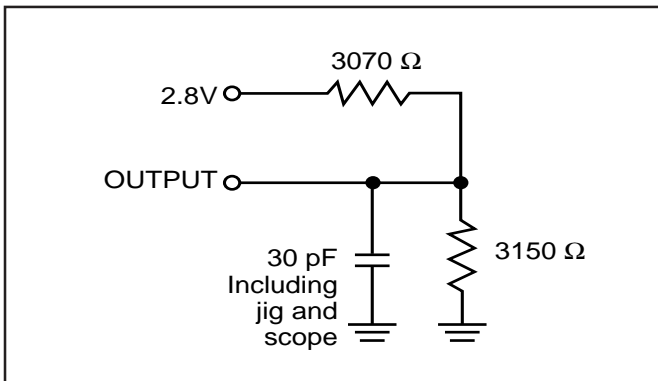

Figure 1
Output Load	See Figures 1 and 2
- Test conditions assume signal transition times of 5 ns or less, timing reference levels of 0.9V, input pulse levels of 0.4 to 1.4V and output loading specified in Figure 1.
- Test conditions assume signal transition times of 5 ns or less, timing reference levels of 0.9V, input pulse levels of 0.4V to 1.4V and output loading specified in Figure 1.